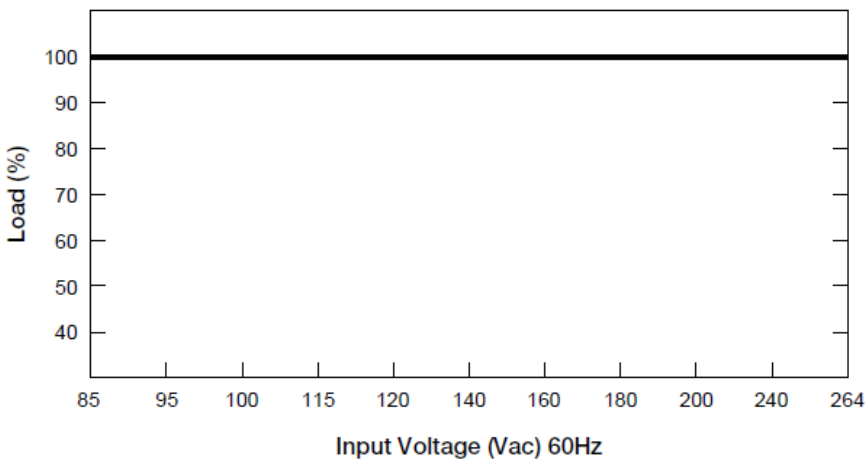

**Fig. 1.1 De-rating for Vertical and Horizontal Mounting Orientation**
1. Power supply components may degrade, or be damaged, when the power supply is continuously used outside the shaded region, refer to the graph shown in Fig. 1.1.